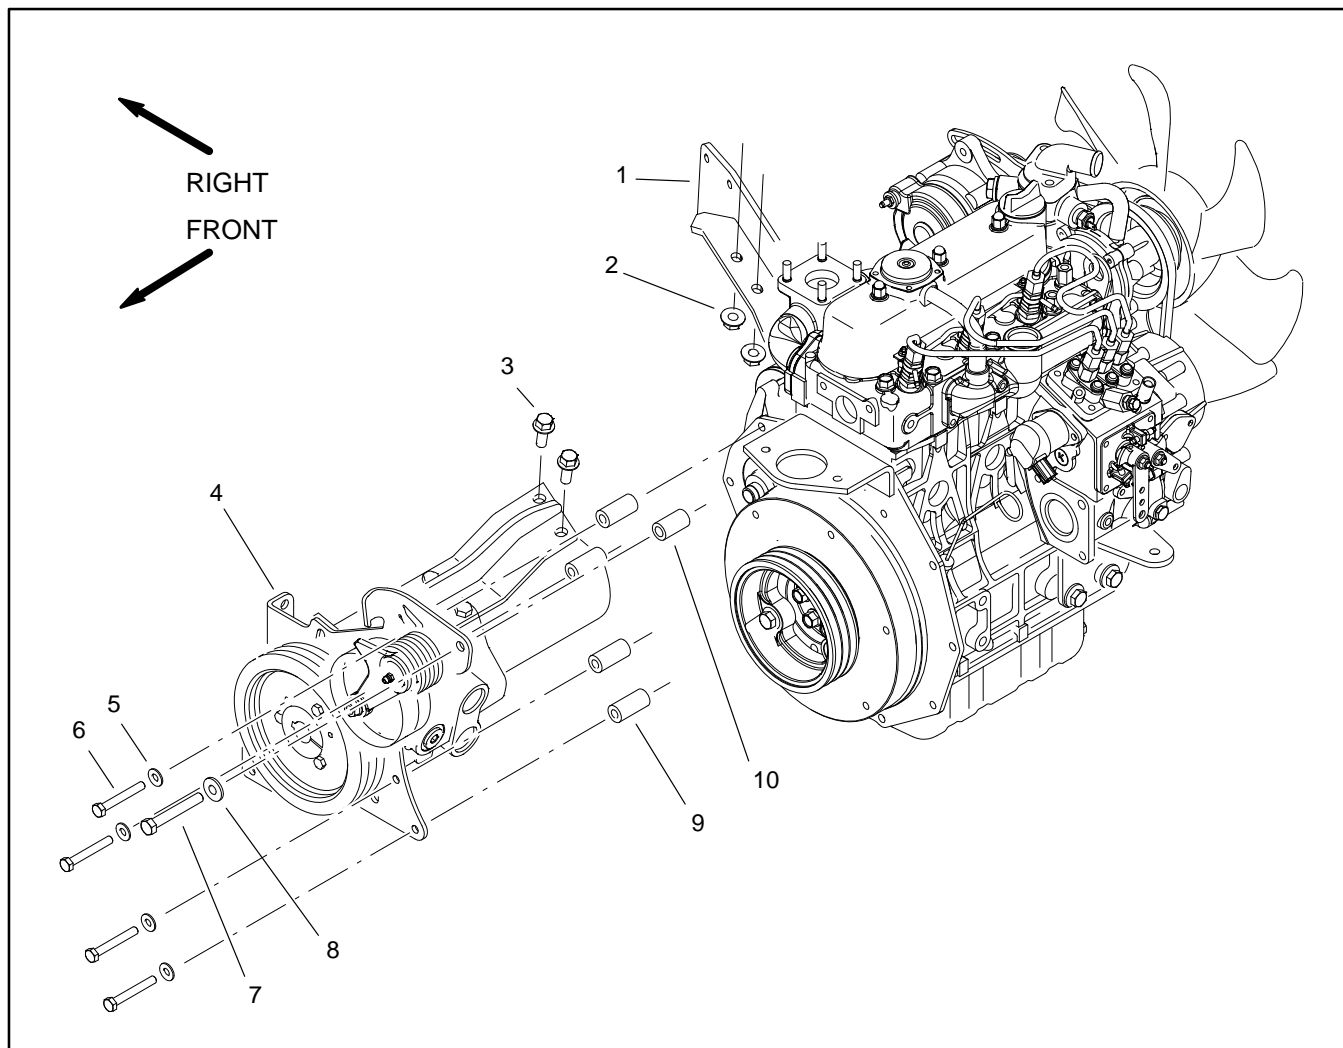
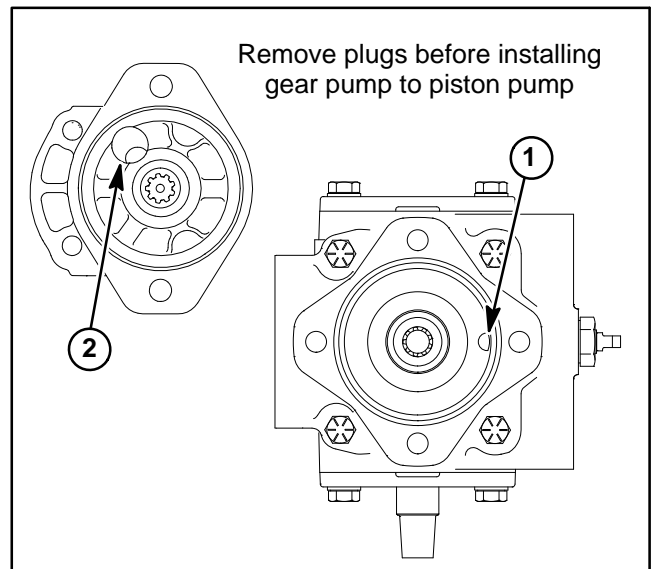

Figure 48
Figure 49
11. Remove fasteners and spacers securing the pump mount plate to the engine (Fig. 48). Record location of cap screws, washers and spacers for assembly purposes.
**NOTE:** A case drain exists in the piston pump/hydrostat and a suction port is near the input shaft of the gear pump (Fig. 49). When the gear pump is removed from the piston pump/hydrostat, plug both case drain holes to prevent draining the pumps.
A. Remove three (3) cap screws and lock washers securing pulley to the taper lock bushing.
**IMPORTANT:** A case drain exists in the piston pump/hydrostat and a suction port is near the input shaft of the gear pump (Fig. 49). Before the gear pump is installed to the piston pump, make sure that plugs placed in either of these ports are removed. Failure to remove plugs will cause excessive pressure in the piston pump and damage seals. Also, before installing gear pump to piston pump, fill piston pump housing with clean hydraulic oil through case drain hole.
6. Position pump pulley to taper lock bushing and align non-threaded holes of pulley with threaded holes of bushing. Loosely install three (3) cap screws with lock washers to bushing and pulley.
7. Position pump assembly to the machine. Install fasteners and spacers securing the pump mount plate to the engine and pump support (Fig. 48). Tighten fasteners securely.
**IMPORTANT: When tightening taper lock bushing cap screws, tighten in three (3) equal steps and in a circular pattern.**
11. Secure taper lock bushing and pump pulley by tightening three (3) cap screws to a torque from **90 to 120 in-lb (10.2 to 13.6 N-m)** in three (3) equal steps and in a circular pattern.